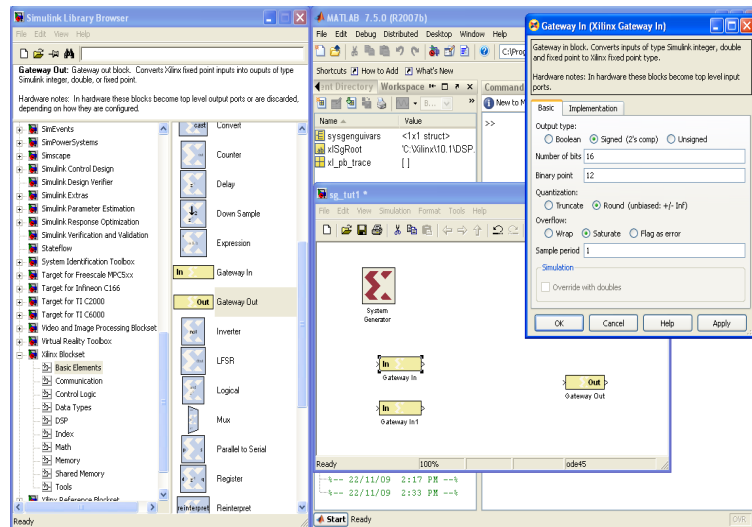

Figure 3: Adding IO Gateways
1. **Input Gateways:** are used at the input of the System Generator system to convert floating point data into fixed point format. As shown in Figure 3 the input gateway properties specify the details of the fixed point format. Three important properties are:
Select **Xilinx Blockset**→**Basic Elements**→**Gateway In**. Place two input gateways in the model as shown in Figure 3. Double click on the input gateway to change its properties. The “**Gateway In**” properties window will show up. Set the output type to two's complement, the number of bits to 16 and the binary point to 12 as shown in Figure 3. You can change the block name by clicking on it. We will leave the block names unchanged in this tutorial.